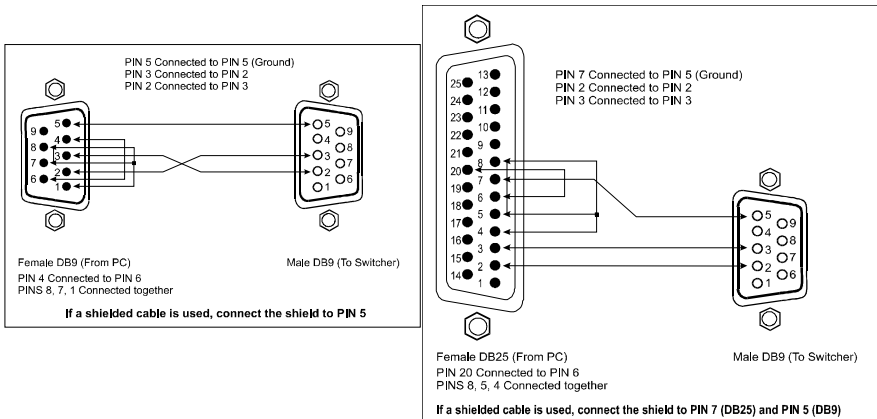

Figure 2: Connecting a PC without using a Null-modem Adapter
- Connect the RS-232 DB9 port on your PC to the RS-232 DB9 rear panel port on the Master **VP-4x4** unit, as Figure 2 illustrates (depending on whether the PC has a 9-pin or 25-pin connector)